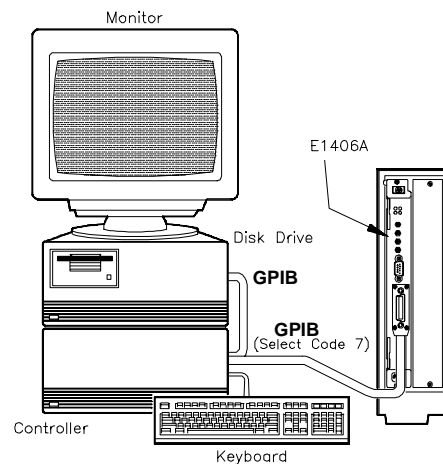

Figure 2-11. Test F-4: Table/Memory Info Connections
- Connect computer to Command Module (see Figure 2-11)